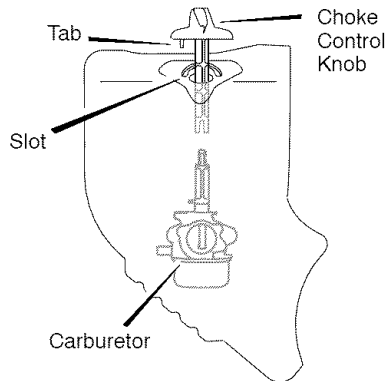

Figure 33
7. Align the tab on the choke control knob with the slot in the snow hood (see Figure 33).